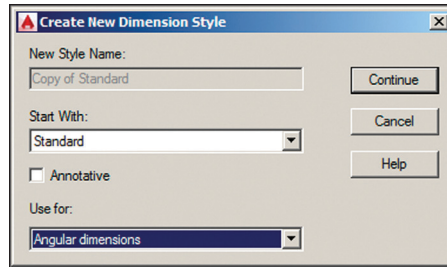

FIGURE 11.7 Creating a dimension substyle for angular dimensions
6. Type D (for Dimension Style) and press Enter. The Dimension Style Manager reappears. Click the New button to open the Create New Dimension Style dialog box. Verify that Start With is set to Standard. Choose Angular Dimensions from the Use For drop-down (see Figure 11.7). Click Continue.